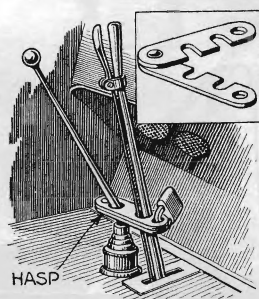

Fig. 3. Lock for gear shift and emergency brake. It is made of two pieces of flat steel
**T**WO pieces of flat steel,  $\frac{3}{16}$  in. thick and  $1\frac{1}{2}$  in. wide, can be filed, as shown in Fig. 3, to form a satisfactory lock for the auto. It will have to be made to fit the gear shift and brake lever on your own car, of course. It can be locked with a small padlock.